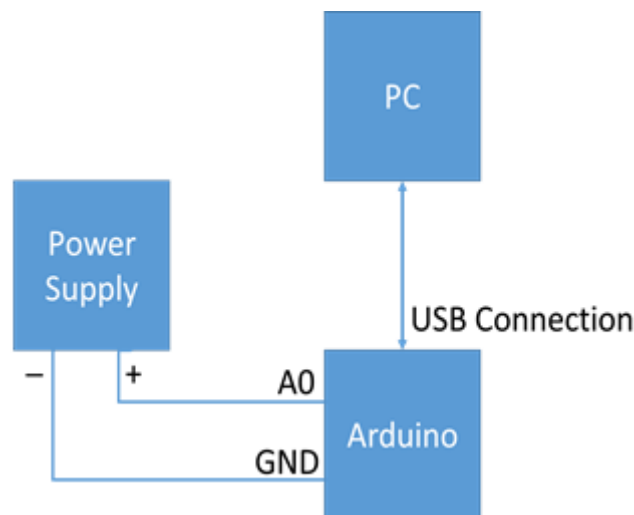

Figure 3.5: Connection between the computer, Arduino and the power supply for the exercise in 3.1
- Connect the Arduino, the power supply (0-3V) and the computer as shown in the Fig. 3.5.